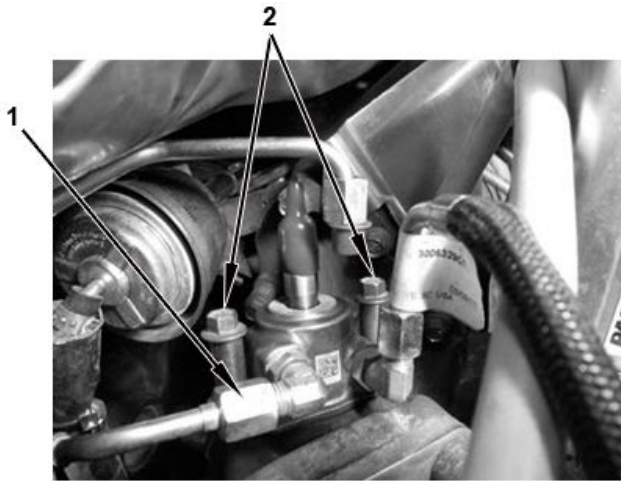

Figure 10. HCl Fuel Inlet.
12. Remove HCl coolant outlet tube (Figure 10, Item 1).
13. Remove two HCl bolts (Figure 10, Item 2), and remove HCl from thermal management valve housing.